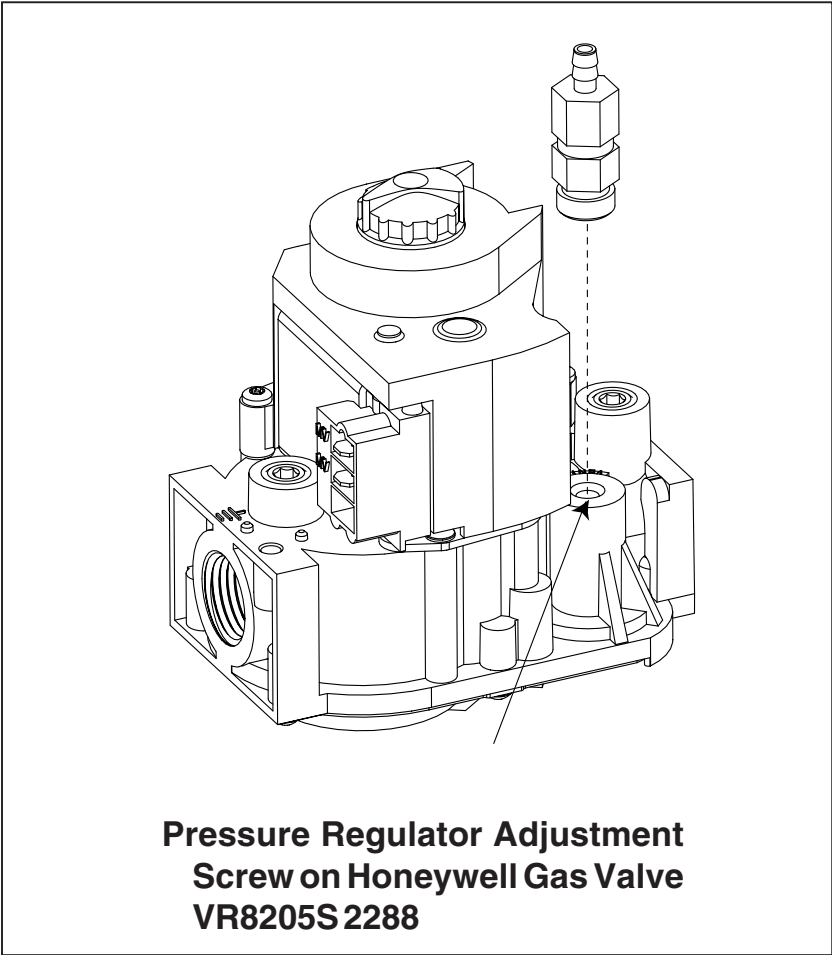

Figure 1
3. Remove the pressure regulator adjustment screw located underneath the cap screw. For condensing furnaces, the Pressure Regulator Adjustment is located underneath the brass fitting (see Figure 1).